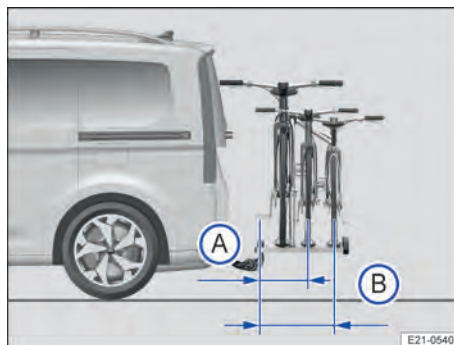

Fig. 166 Illustration of the maximum overhang on a bicycle carrier for two or three bicycles.
19.7 in) → Fig. 166 Ⓐ from the middle of the ball head to the middle of the rail of the last bicycle carrier. The overhang must not exceed 700 mm (approx. 27.6 in)
→ Fig. 166 Ⓑ for bicycle carrier systems with three bicycles.